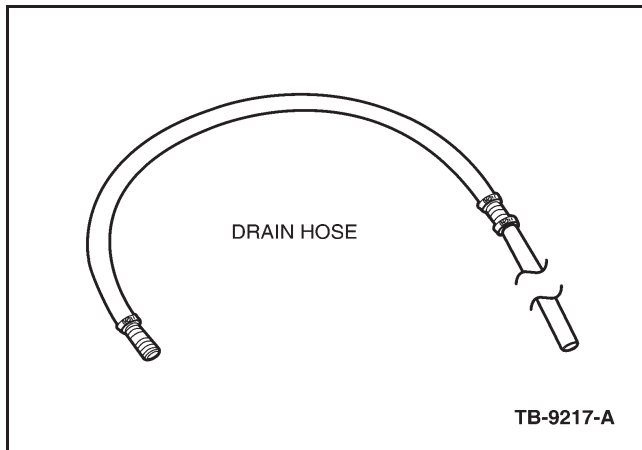

Figure 8 - Article 08-23-1
- c. Using a 3/4" coupling adapter and hose clamps, attach a 2' (61 cm) length of heater hose to the remaining section of garden hose to be used as the drain hose (the heater hose will prevent kinking at the tight area of the engine compartment). (Figure 8)